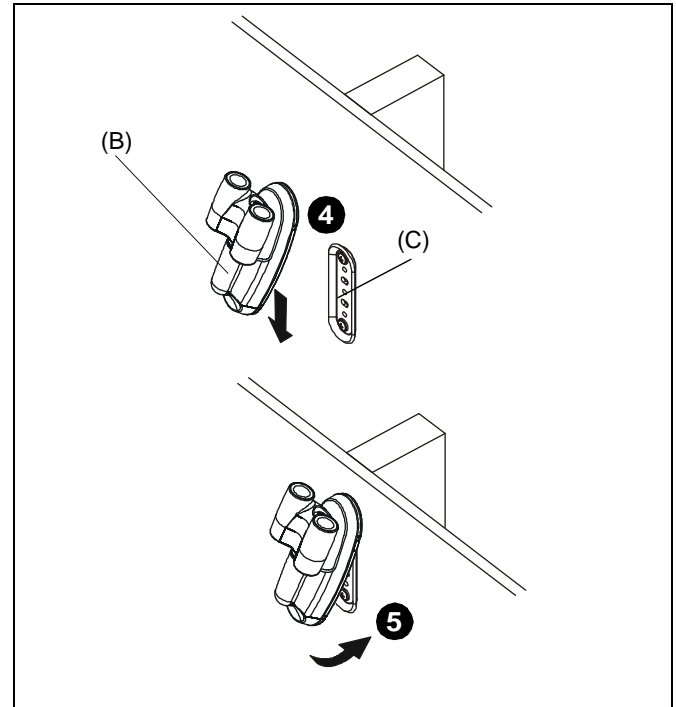

Figure 2
4. Insert top of multi-arm mount (B) over lip on top of wall bracket (C). (See Figure 2)
5. Swing mount (B) down flush against wall.